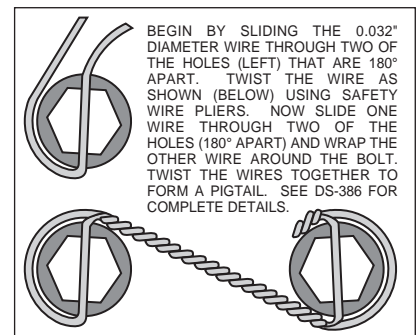
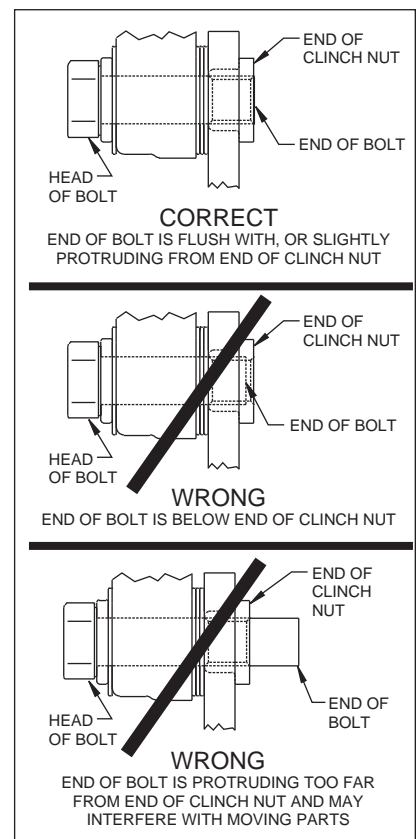

Figure 4. Safety Wire Diagram
Figure 5.
- Install the dust cap (13) onto the hub (6). Friction created by the o-ring (14) on the dust cap (13) keeps it from unscrewing. The O.D. of the existing spindle washer may be larger than the I.D. of the dust cap (13) not allowing it to seat against the hub face. Some grinding on the washer O.D. may be necessary to clear the I.D. of the dust cap (13).
- **NOTE:** Please reference the caution statement at the beginning of the assembly instructions. Mount the caliper (15) onto the caliper bracket (1) using washers (16) and bolts (17). Finger tighten. View the rotor (9) through the top opening of the caliper (15). The rotor (9) should be aligned in the center of the caliper (15). If not, adjust the caliper (15) by using 0.032 inch thick shims (18) placed between the caliper mounting bracket (1) and the caliper (15). Use as many shims as necessary to obtain the correct alignment. Finger tighten. **NOTE:** The end of the bolt must be flush with or slightly protruding from the head of the clinch nut. See Figure 5. Place spare shims (18) between washer and caliper mounting ear to achieve the proper mounting fastener configuration. Always use the same amount of shims on both the top and bottom caliper mounting bolts (17). Apply red *Loctite*® 271 to bolt threads (17) and torque to 40 ft-lb. For an added measure of security, the bolts may be safety wired using standard 0.032 inch diameter stainless steel safety wire as shown in Figure 4. Refer to Wilwood's data sheet DS-386 (available at www.wilwood.com/Pdf/DataSheets/ds386.pdf) for complete safety wire installation instructions.
- Install the disc brake pads (19) and secure using retainer clip (20).